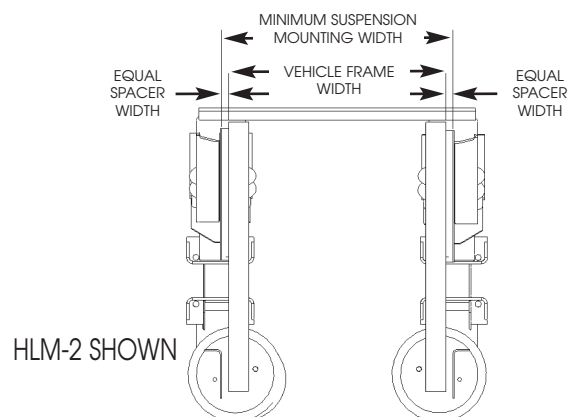

Figure 7
- For non-specified frame widths loosen the factory snugged axle U-bolts (4) and adjust the width of the suspension frame brackets to accommodate the truck frame rails.
- Verify the suspension is centered on the vehicle frame (See Figure 7). Use equal shims if required.
- Once the suspension side rails are located at the desired position, vertically clamp the suspension frame brackets on to the trailer frame rail. Tack weld one frame bracket to the trailer frame rail to prevent any movement. Verify the suspension is centered on the vehicle frame (see figure 7), the top suspension frame bracket centers measurements are all the same measurement. Inspect the opposite side of the suspension for the perpendicularity and parallelism between the trailer frame rail and the suspension frame brackets. Tack weld the remaining frame bracket to the trailer frame.